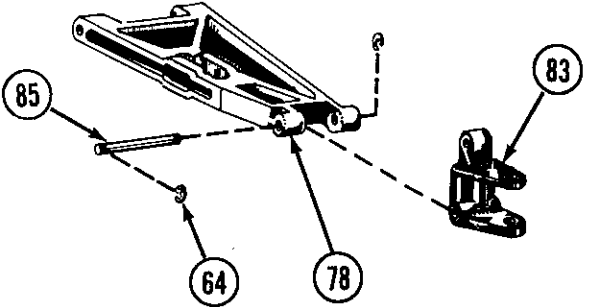

FIG. 36
12. Attach spindle carrier (83) to A-arms (78) using 1/8" x .960 pins (85) secured by two 1/8" E-clip (64). Fig. 36.
- * NOTE: Letters L and R on spindle (81) (82) arms should point upward and should be on appropriate side. Fig. 36.